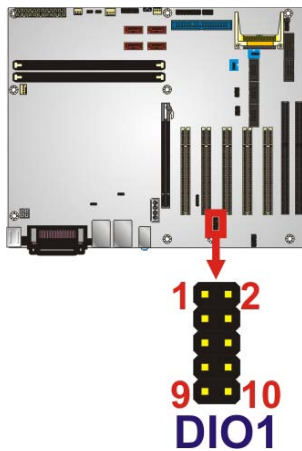

Figure 3-6: Digital I/O Connector Location
- CN Location: See **Figure 3-6**